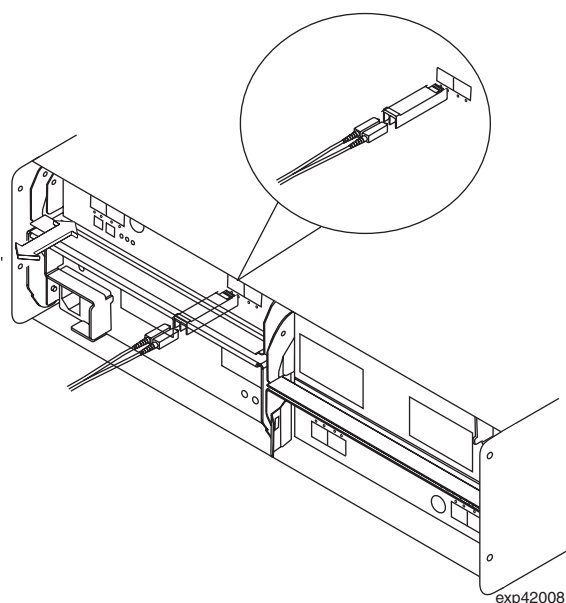

Figure 33. Installing an SFP module and LC-LC cable in a supported DS4000 storage subsystem
2. Connect an LC-LC fibre-optic cable into the SFP module, as shown in Figure 33 on page 47.
Note: Figure 33 is for illustrative purposes only. The actual SFP module on your particular DS4000 storage subsystem might appear differently than the one shown in the figure.